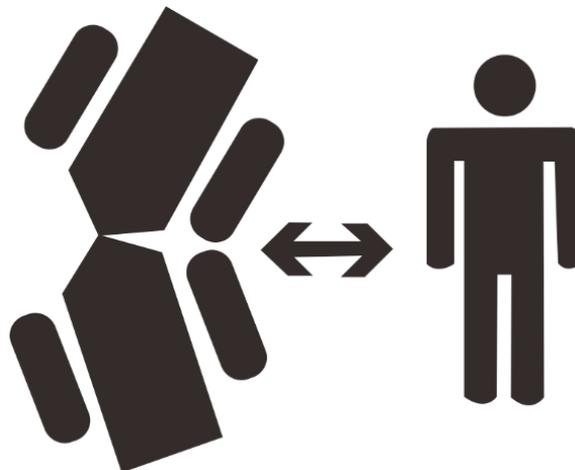

Figure3-3 Keep the distance
(1) Do not place hands, arms or any other parts of the body between movable parts, as shown in Figure 3-3, such as between the working devices and the oil cylinder, between the vehicle body and the working devices, and the hinge joints of the vehicle frames. With the movement of the working devices, the space at the link mechanism will increase or decrease, and if a person approaches, it may cause a serious accident. If you need to enter between the moving parts of the machine, you must turn off the engine and place the control handle in the neutral position